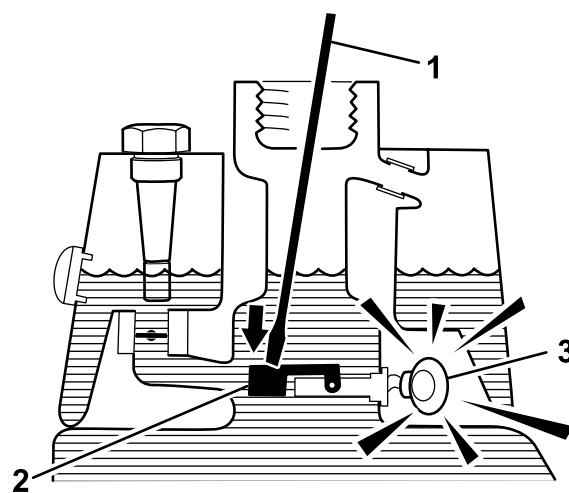

Figure 61
3. Insert a clean rod or screwdriver into the tank neck and gently push down on the switch float (Figure 61); the alarm should sound after the 1-second delay.